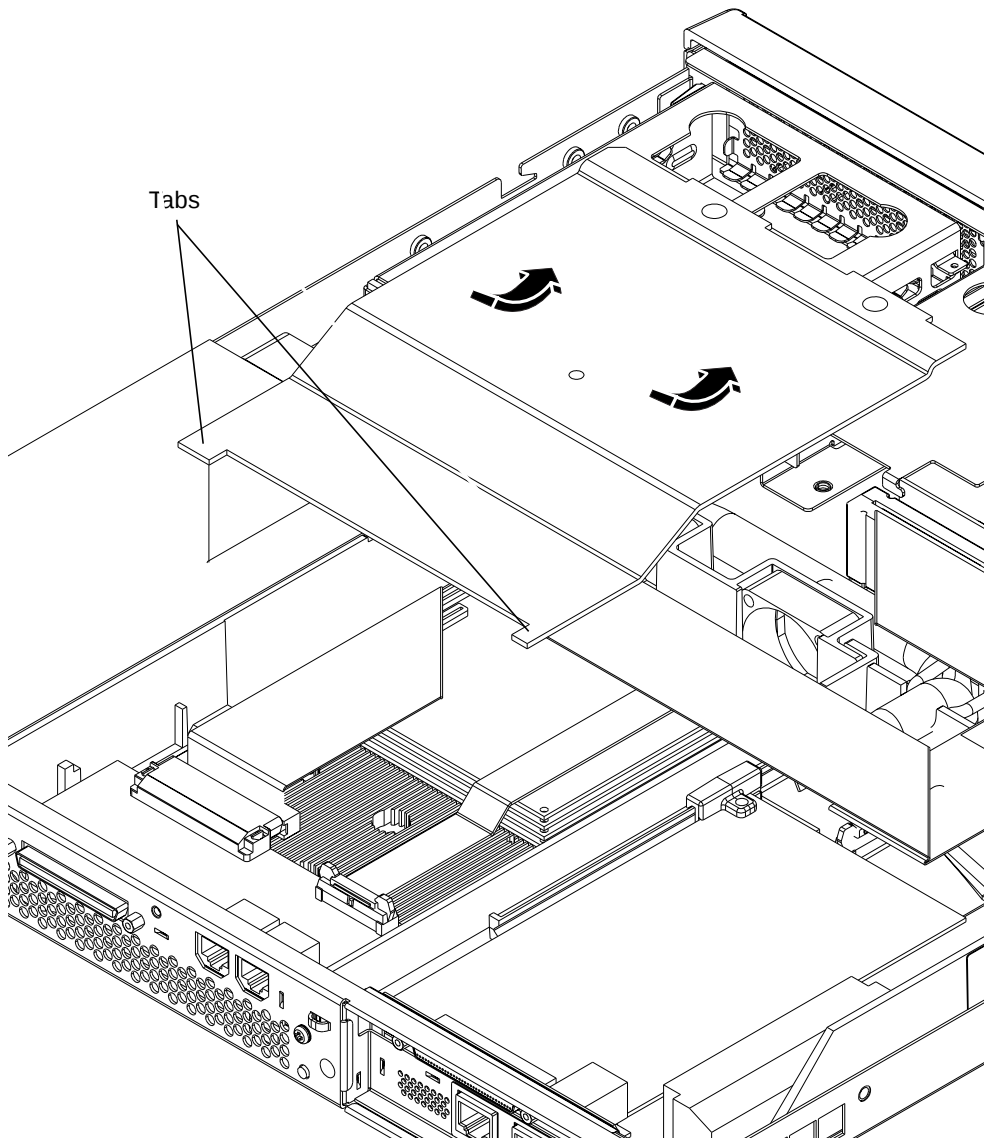

FIGURE A-7 Lifting out the Processor Cover
2. **Lift out the processor cover located in the rear center of the unit (see FIGURE A-7).**